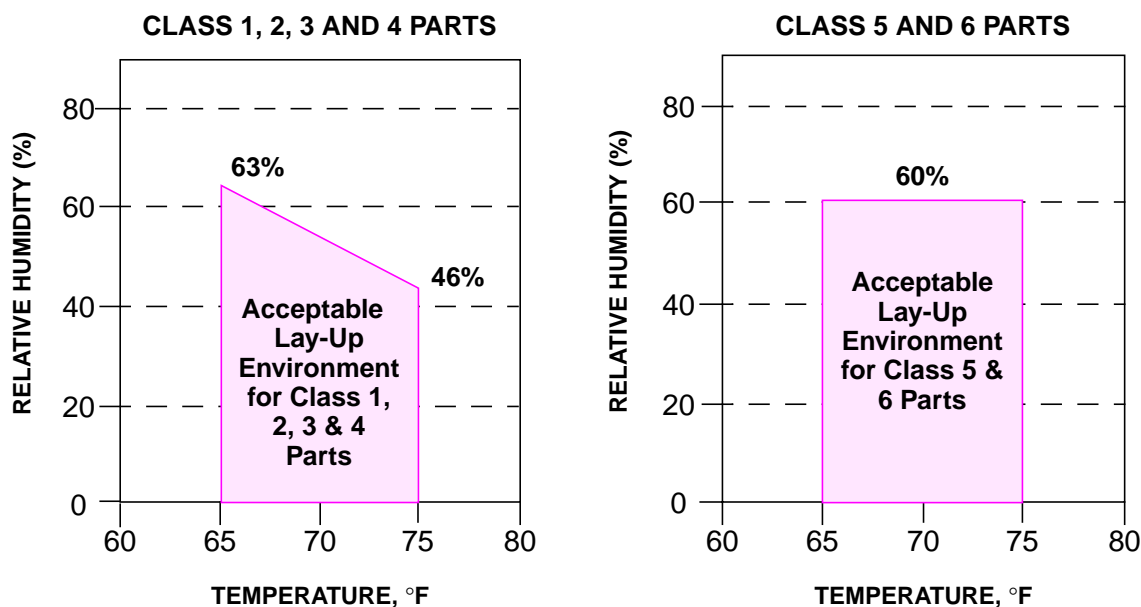

FIGURE 12 - TEMPERATURE AND RELATIVE HUMIDITY LIMITS FOR PRE-IMPREGNATED PLY LAY-UP REPAIR AREA
- 6.3.5 Keep the lay-up area temperature and relative humidity within the limits specified in Figure 12. If the temperature or relative humidity exceeds the limits specified, suspend repair and vacuum bag partially completed parts and store them under a minimum vacuum of 24" Hg and take appropriate corrective action to restore the temperature and relative humidity back to the acceptable specified limits.